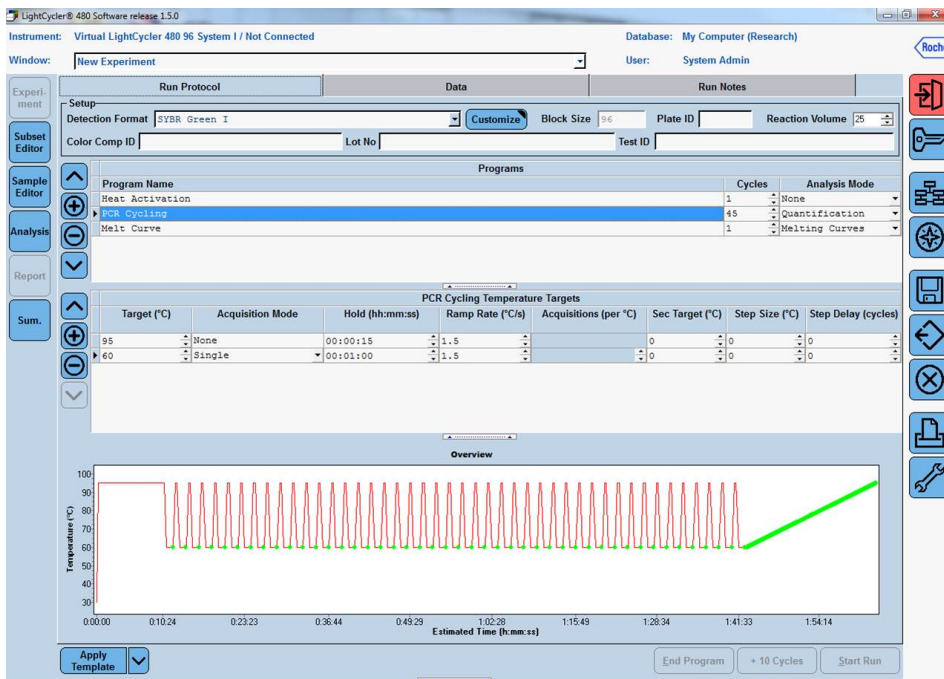

Figure 4. Setup of the second program — PCR cycling.
8. Click to change the Program Name of the 2nd program to “PCR Cycling”. Change the number of Cycles to “45” ** and change the Analysis Mode to “Quantification”. In the Program Temperature Targets section, click the  button to add one more temperature target line. Enter the values for the following parameters (Figure 4):